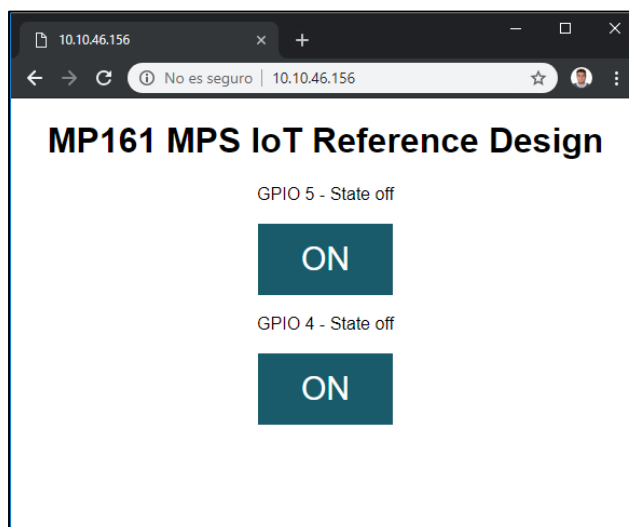

Figure 24: Web Layout
- Then you can go to your browser with this IP and interact with the relay (Figure 24).